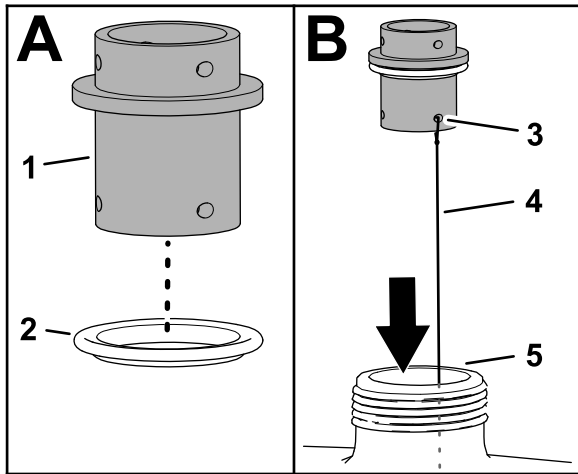
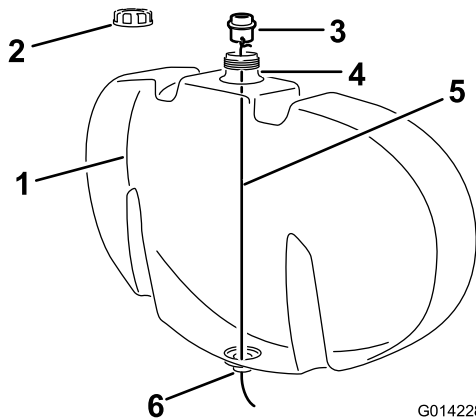

Figure 5
Figure 6
- A. Install a clear gasket onto the bulkhead fitting as shown in Figure 5.
- B. Attach a piece wire, approximately 122 cm (48 inches) in length, through 1 of the retaining-fork holes in the bulkhead fitting as shown in Figure 5.
- C. If installed, remove the cap from the rinse tank. (Figure 6).
- D. Lower the wire through the opening in the tank fill hole and route it through the open hole at the bottom of the tank (Figure 5 and Figure 6).